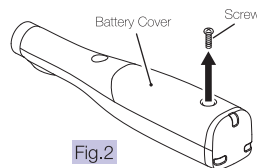

Fig.2
- 2) Remove the screw fixing the battery cover with a Phillips screwdriver. (Fig. 2)